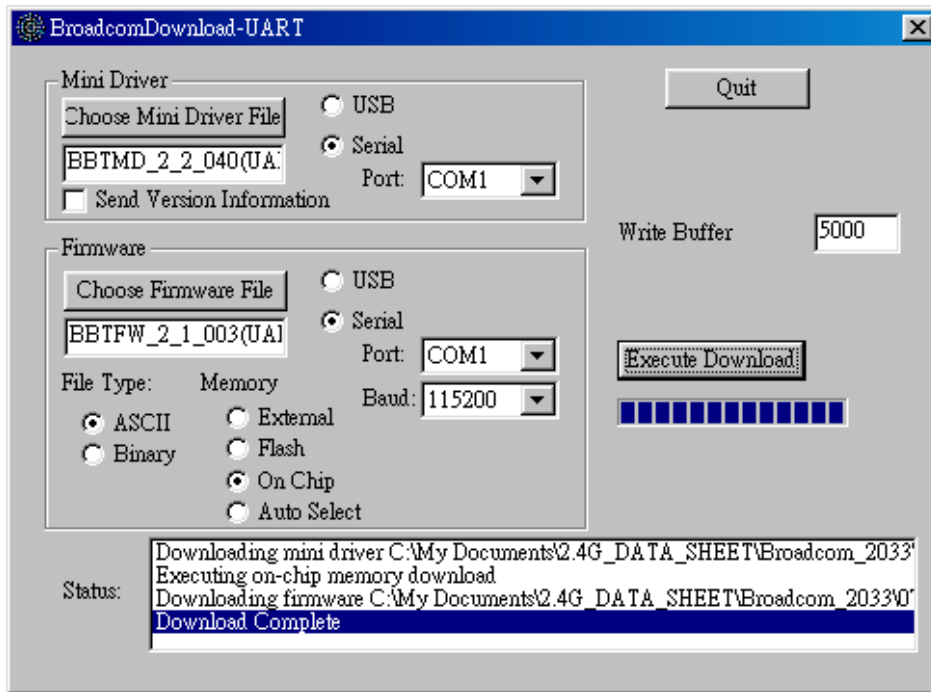

Figure 6: Firmware download completed
7. When the download is complete, click “Quit” to exit the program and the system is ready for further HCI testing or software development. (as Figure 6)